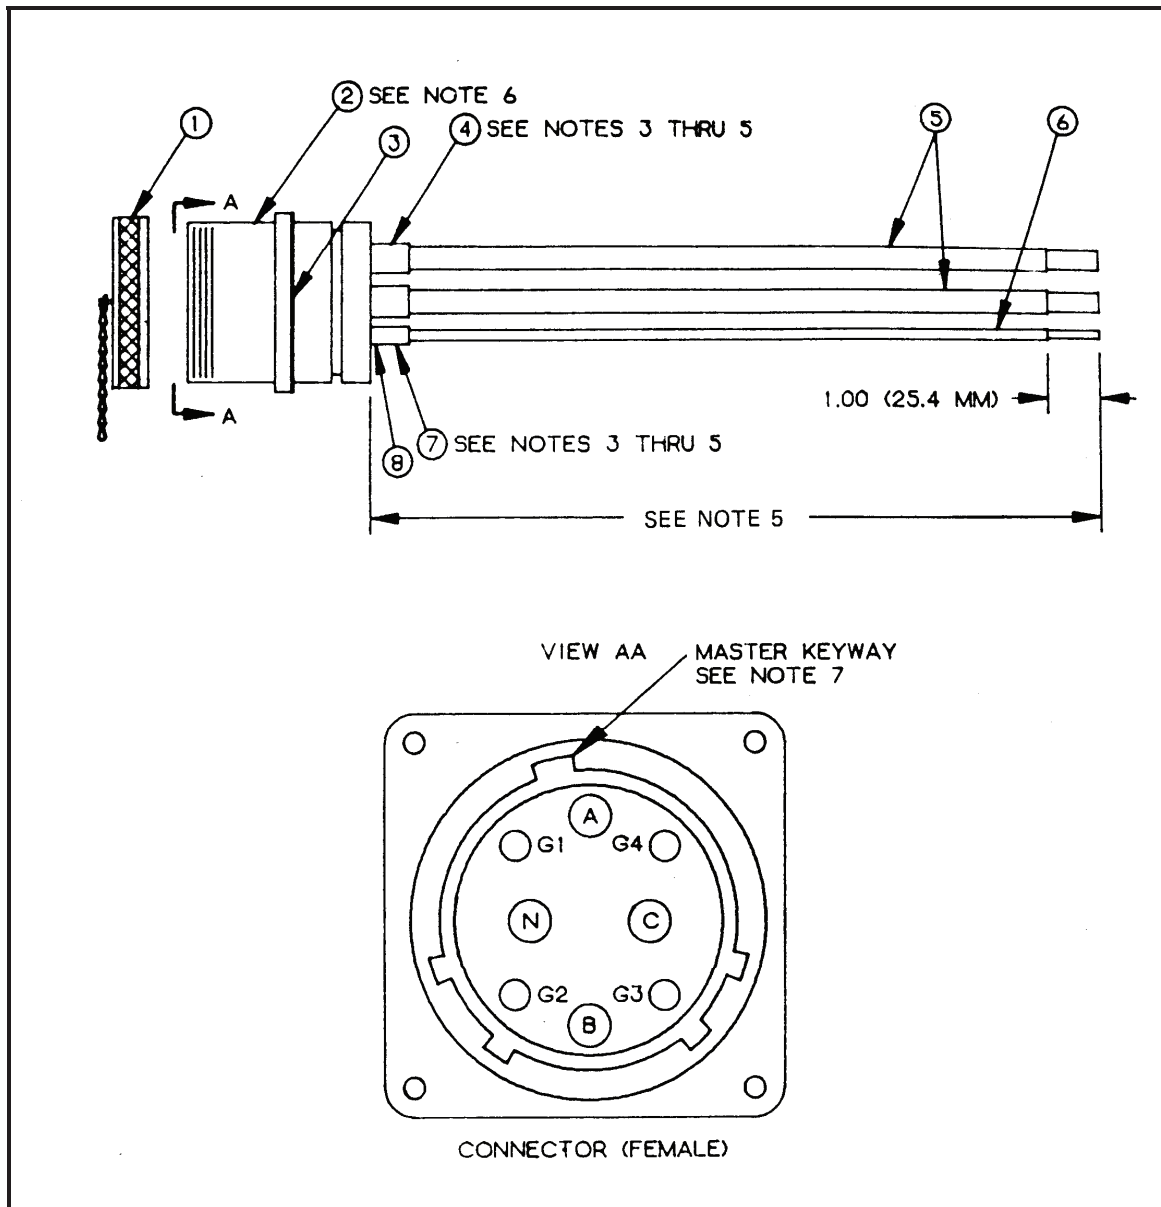

Figure F-28. PDISE 100-Amp, Output Connector Assembly.
Component Legend for Figure F-28
c. Electrical connector (Figure F-28, Item 2) is furnished with the following: